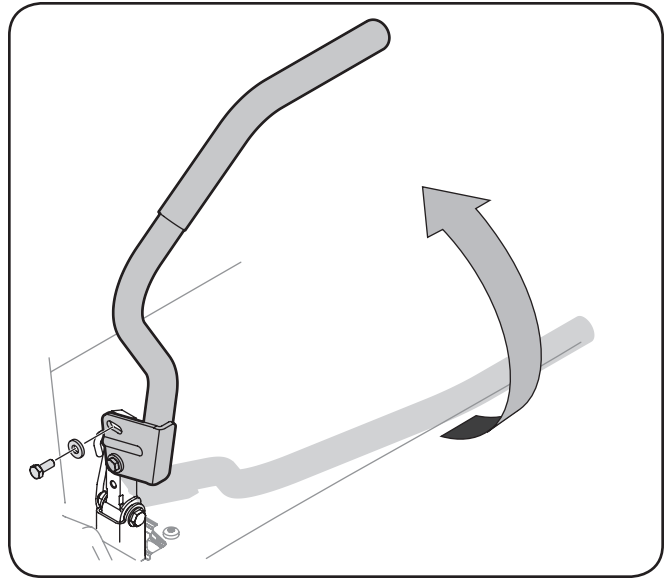

Figure 1-1
1. Pivot the right lap bar upward and fasten it to the mounting bracket with a hex screw and flat washer. Refer to Figure 1-1. Do *not* tighten at this time.